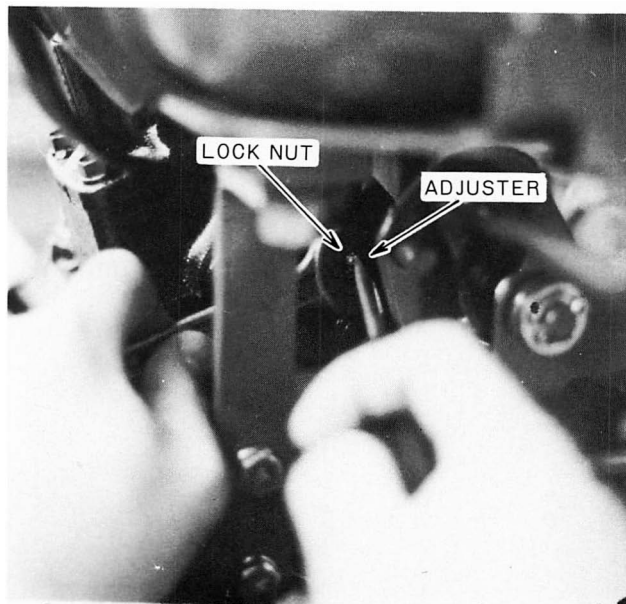

Figure 58 — Steering Wheel Free Play Adjustment
2. Loosen the adjuster locknut on the right side of the steering gear box and turn the adjuster screw, see Figure 58. Turning the screw clockwise will decrease the free play while turning the adjuster screw counterclockwise will increase the steering wheel free play.